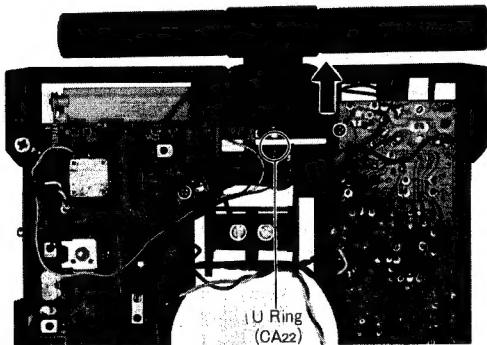

Fig. 8
- Remove gyro antenna case U ring, as shown in fig. 8.
- Remove the gyro antenna case in the direction of arrow, as shown in fig. 8.